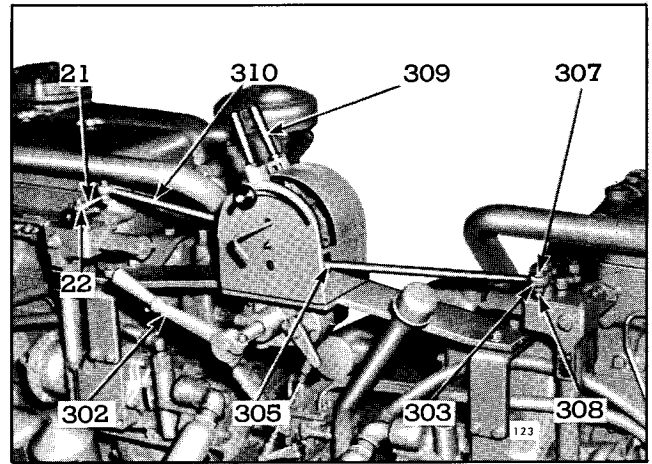

Fig. 3 - Throttle Control Mounting (Tandem Twin Unit)
Refer to Fig. 3 and disconnect throttle control tube (310) from each governor throttle control lever (21) by removing attaching bolts (307) and nuts (308), then perform the following steps:
With engines stopped and throttle control mechanism well lubricated and free of any binds, refer to Fig. 3 and perform the following adjustments on both engines.